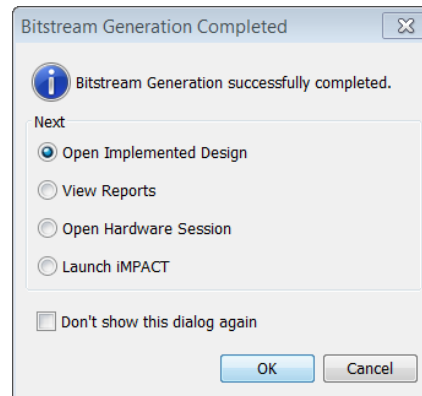

Figure 28: Bitstream Generation Completed
3. After the design implementation, click **Open Implemented Design**, (FIGURE 28).